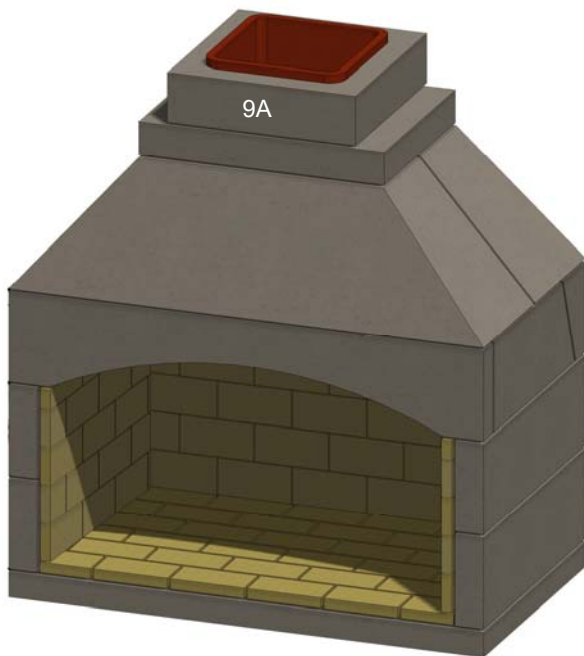

Figure 21. Chimney Flue
N. Install the first masonry chimney section (9A), with the tile extending upward. Fill the void on the bottom with mortar to create a smooth transition. See Figure 21.